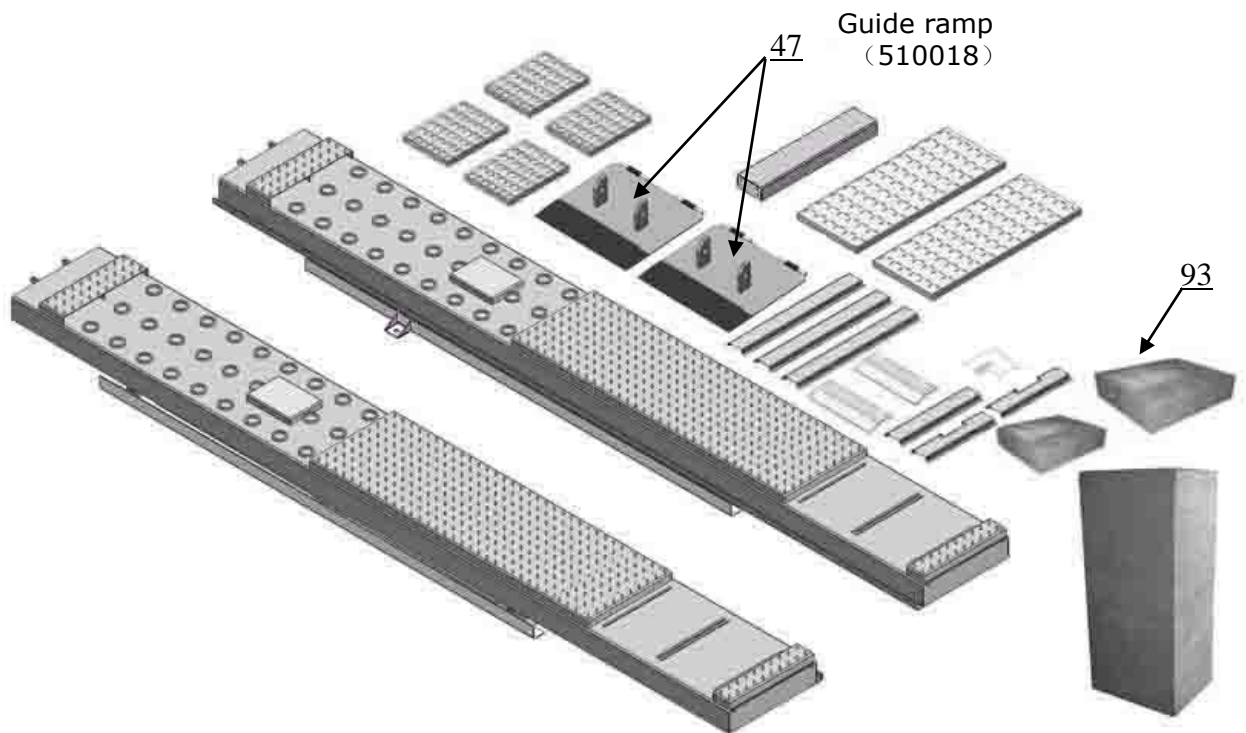
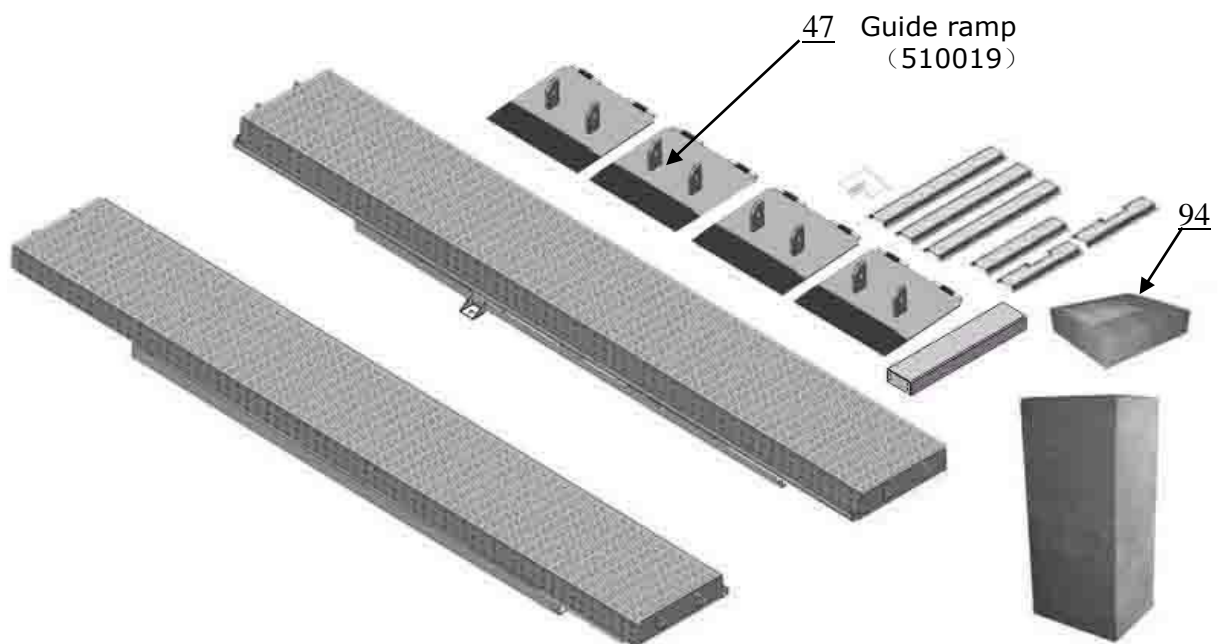

Fig. 13
Fig. 14
2.2 Parts for flush mount installation (See Fig.13, Fig.14)